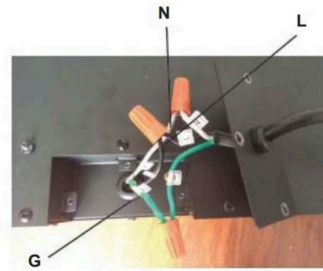

Fig. 3
4. Using the wire connectors, connect the ground green wires (G), the common white wires (N) together, then the hot black wires (L) and then refer to Fig. 3